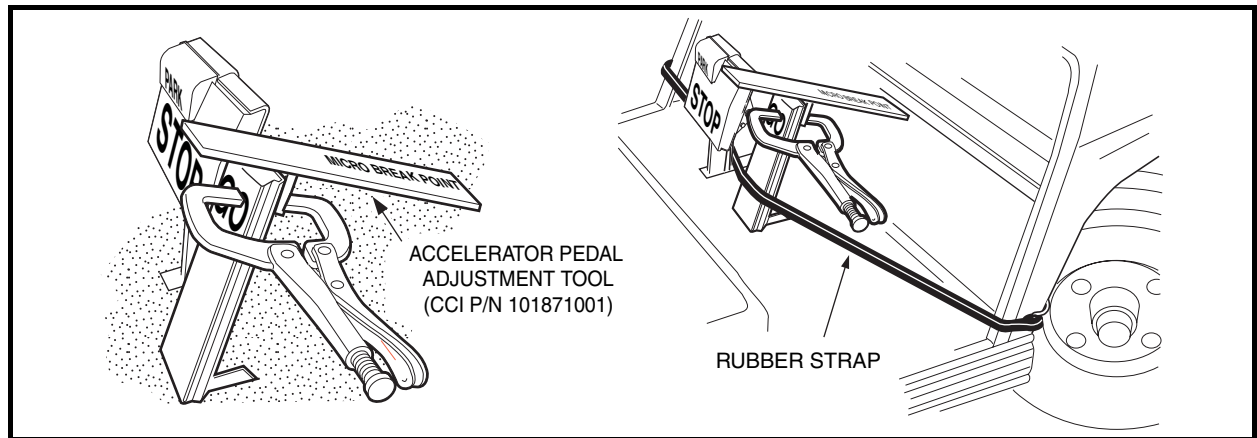

Figure 5-18 Accelerator Pedal Height Adjustment
- 4.1. Loosen the nut and bolt (Figure 5-17, Page 5-14) securing the accelerator pedal to the pivot plate. Clamp the accelerator pedal adjustment tool (CCI P/N 101871001) to the accelerator pedal, with the end marked accelerator pedal height closest to the floorboard. Press the accelerator pedal until the end of the tool rests against the floorboard; pedal height should be 5-5/8 inches (14.3 cm). Use a rubber strap to hold pedal in position against the floorboard and then tighten nut to 26 ft-lb (35.3 N·m) (Figure 5-18, Page 5-14).